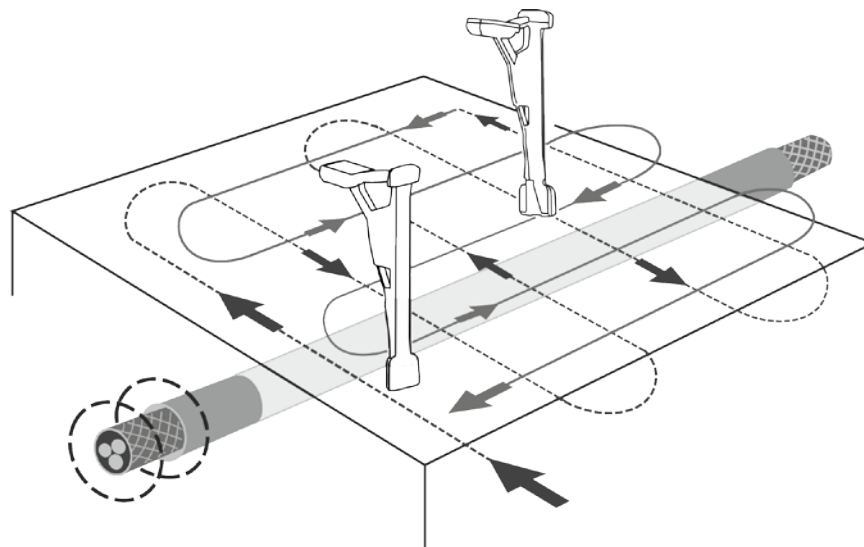

Figure 4.4.1 – Survey of territory plots without use of the transmitter
Set amplification to bring bar graph indication to approximately 50%. Move in zigzags with zigzag step of 1-5 m in one direction, and then in a perpendicular one (Figure 4.4.1). Where the utility is located, the signal strength will be at maximum level. Perform searching as described in item 3.2.1 in order to confirm utility location. Find utility direction by turning locator around vertical axis. When locator is perpendicular to utility axis the signal strength will be at minimum level and vice versa.